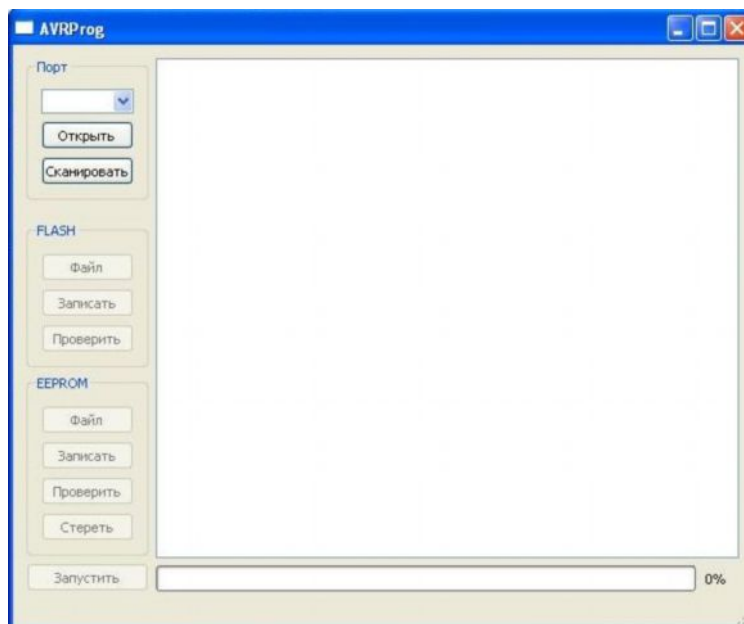

Fig.1
1. Start the program “**mprog2.exe**”. The program window will appear (Fig.1).